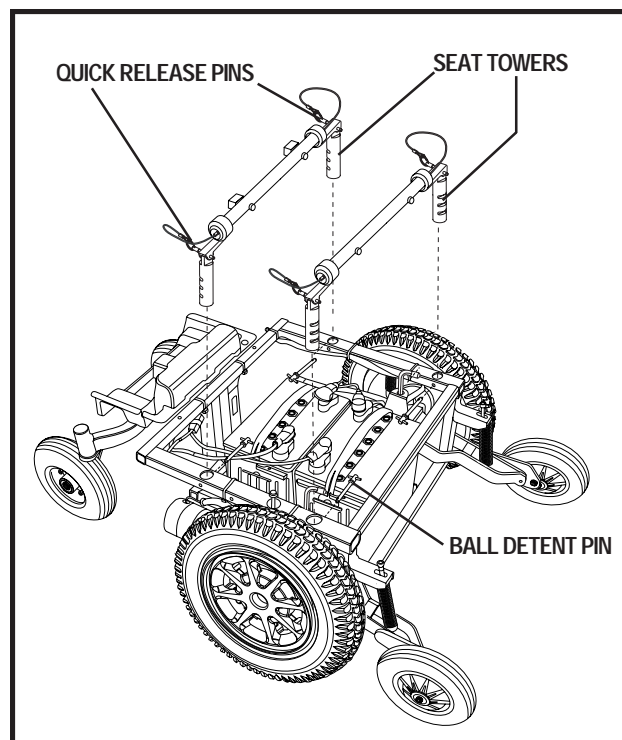

Figure 19. Seat Height Adjustment (Shroud Removed)
6. Remove the quick-release pins from the seat towers (front and rear). See figure 19.
9. Remove the ball detent pin from each of the four seat towers. See figure 19.